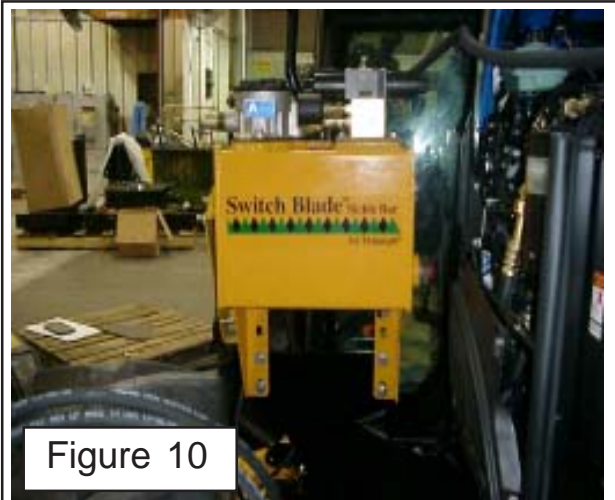

Figure 10
10. Install Hydraulic Tank Assembly The hydraulic tank assembly will mount on the RH side of the tractor to the tank mount bracket. The tank faces to the front of the tractor (See Figure 10)